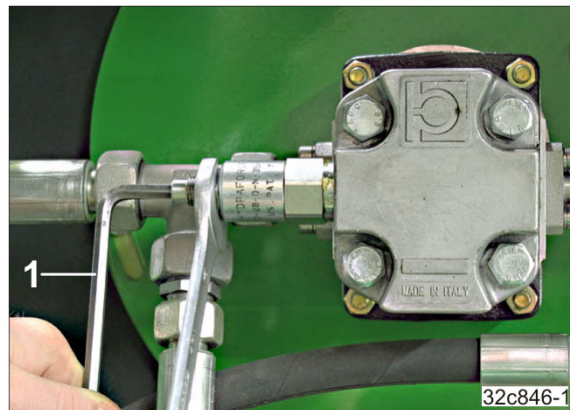

Fig. 206
1. Loosen the lock nut (Fig. 206).
2. Adjust the pressure relief valve to the factory-set dimension "21 mm" (Fig. 206).
- 2.1. Turn the screw with the hexagon socket wrench (Fig. 206/1) accordingly.